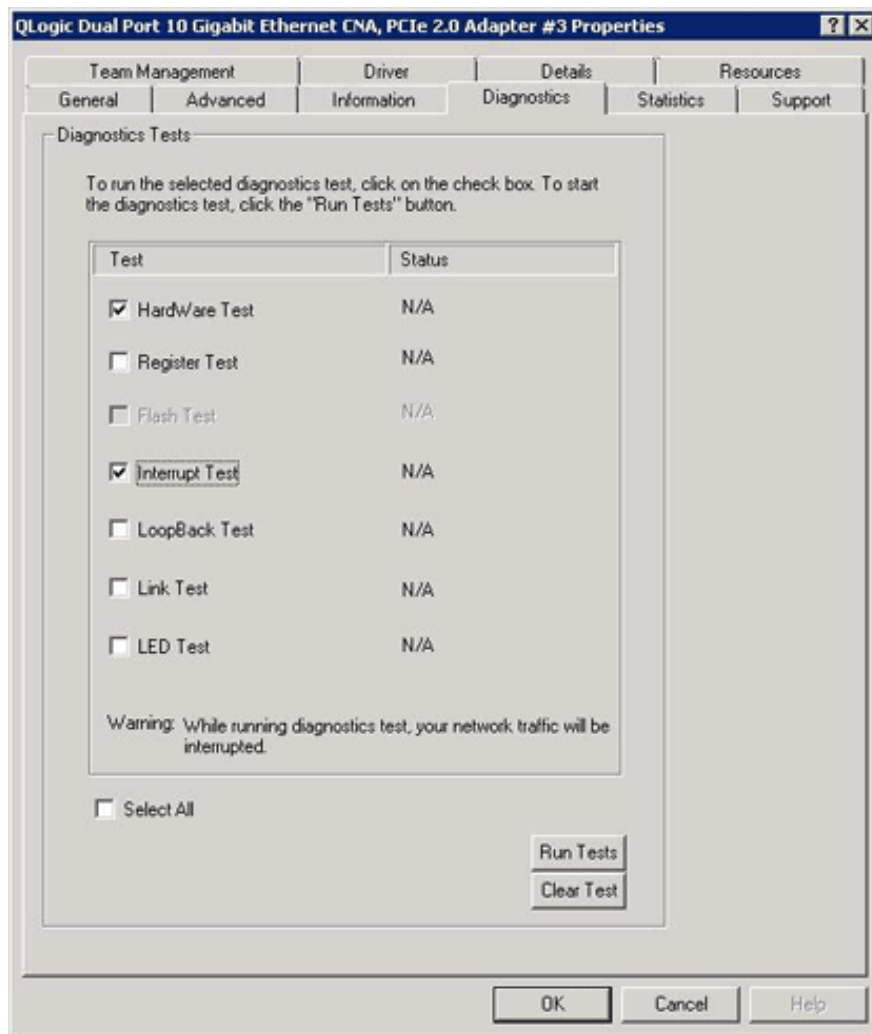

Figure 49: Diagnostics Tests on Windows
3. On the adapter properties page, click the **Diagnostics** tab. Figure 49 shows the **Diagnostics** page.